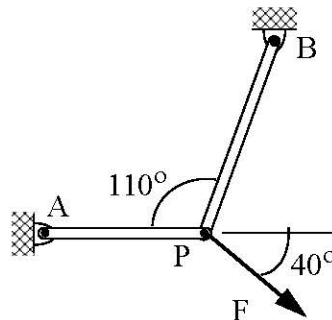

Fig. P7.8
7.8 A force $F = 20\text{kN}$ is applied pin shown in Fig. P7.8. Both bars have a cross-sectional area of $A = 100\text{ mm}^2$ and a modulus of elasticity $E = 200\text{ GPa}$. Bar AP and BP have lengths of $L_{AP} = 200\text{ mm}$ and $L_{BP} = 250\text{ mm}$ respectively. Using virtual force method determine the movement of pin in the direction of force F.